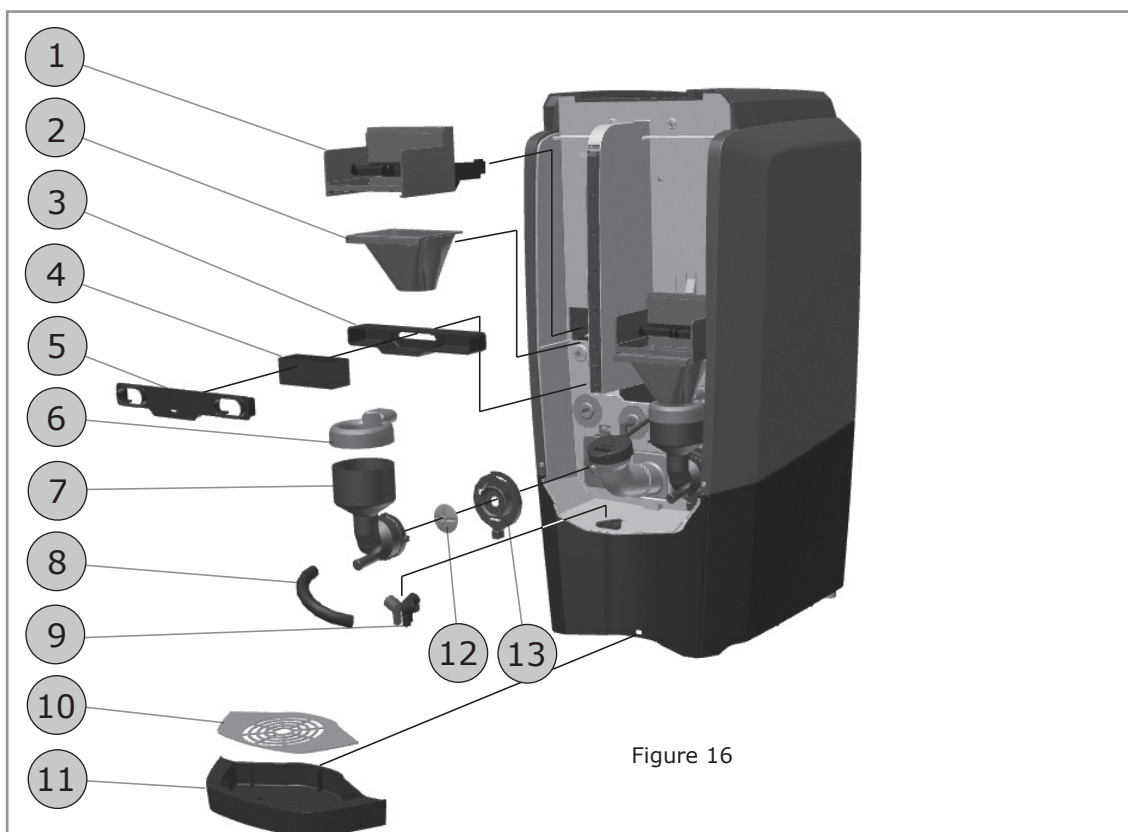

Figure 16
Parts that must be washed (figure 16):
3. Remove the two funnels (2, figure 16) by pulling them straight out.
5. Remove the hoses (8, figure 16) from mixer bowls (7, figure 16).
7. Remove the whipper (12, figure 16) by pulling it outward.
9. Pull out the fan duct (3, 5, figure 16) and open its two halves. Remove the filter (4).
10. Remove the spill tray (11, figure 16) and its grate (10).